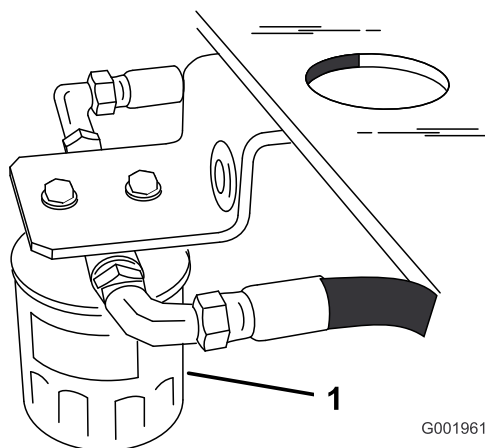

Figure 59
3. Locate the filter under the fuel tank and place a drain pan under the filter (Figure 59).